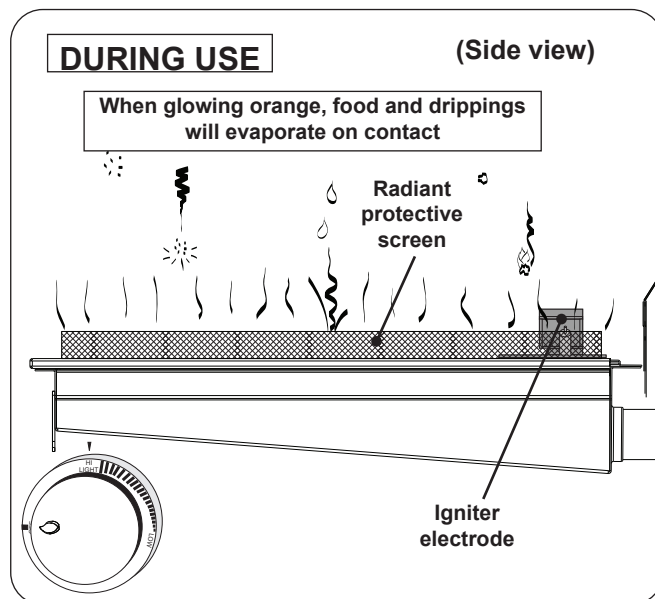

Fig. 32-3 Infrared burner - DURING USE
- **DO NOT place food on the cooking grid until the infrared burner glows orange (Fig. 32-3).** Drippings are heated and evaporate instead of sticking to and impairing burner function.